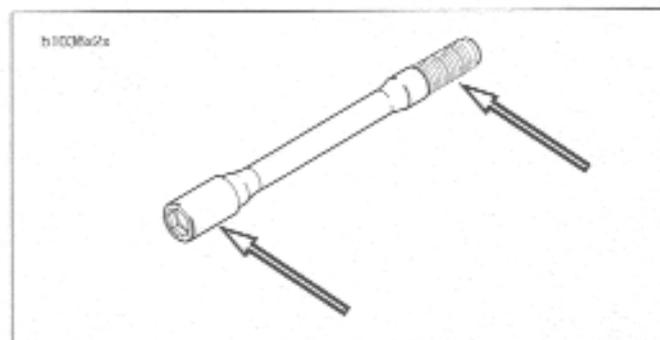

Figure 2-22. Anti-Seize Lubricant Location
- See Figure 2-22. Coat the axle with ANTI-SIEZE LUBRICANT.